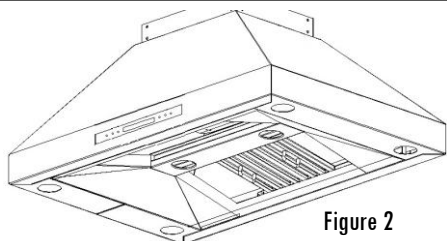

Figure 2
2. Lift a baffle filter up above horizontal level then slide forward into slot behind the front of hood Figure 2 & 2A